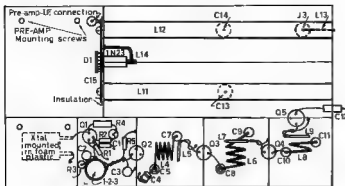

FIG. 2. CONVERTER LAYOUT
The diode pin contact may be salvaged from an old bakelite octal water socket or may be fashioned from a small piece of tinplate. Solder a length of 18 gauge tinned copper wire to the contact, bend as shown in Fig. 2 and solder to partition 2 in the signal trough-line. It is not advisable to use a good diode while soldering as it could be damaged by heat. Assemble the diode mount C15 and check for shorts before insertion of the diode.
- C15—Diode by-pass capacitor (Fig 2 and text)
- L10—1 inch collector lead of Q5 (Fig 2 and text).
- L11, L12—1/2 inch outside diameter tube, 4 1/2 inch long, Fig. 2.
The oscillator section should now be soldered to the trough-line portion of the converter. Mount Q5 with the collector lead as shown in Fig. 2. The overall length of the lead to the top of the feedthrough capacitor should be about one inch. Apply power and peak C10 for maximum Q5 collector current. Adjust link L9 for 2.5 to 3 mA. Q5 collector current, re-checking C10 tuning. Mount the i.f. pre-amplifier unit and connect. Tune the LO cavity screw for maximum mixer diode current, which should be 0.5 to 1 mA. If the tuning of the early LO stages is checked, the tuning may appear very, very broad, being due to saturation in the multipliers. It is safer to check each
- (1) Signal Trough: Normally tuned for maximum signal.
- (2) Mixer Current: After injection in small increments of say 50  $\mu$ A. to find the optimum level which is normally 0.2 to 0.3 mA., but will depend on the actual diode. The injection level may be conveniently controlled initially by detuning C10. Once the optimum level is found, the coupling of L9 may be adjusted to give this value with L8 peaked.
- (3) Diode Coupling: The area enclosed by the link should be close to that shown in Fig. 2. Try altering the area by lengthening and shortening the lead in say 1/8 inch steps. Once again this will depend on the diode.
- (4) Input Coupling: The area of the link controls the matching and should be close to that shown.
- (5) I.F. Pre-amp: The adjustment of L17 is critical for best n.f. and also the input coupling L18. Adjust L17 in small steps, re-peak C17 and C30 and check S/N. The number of turns on the coupling L15 should be varied also.